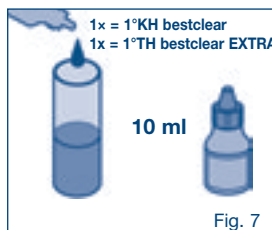

Fig. 7
- The hardness can be requested from the water supplier or established by means of a quick test (droplet test, Fig. 7). The bypass setting can be selected based on the carbonate hardness and its application. The typical filter capacities are shown in Table 1 in Section 10.